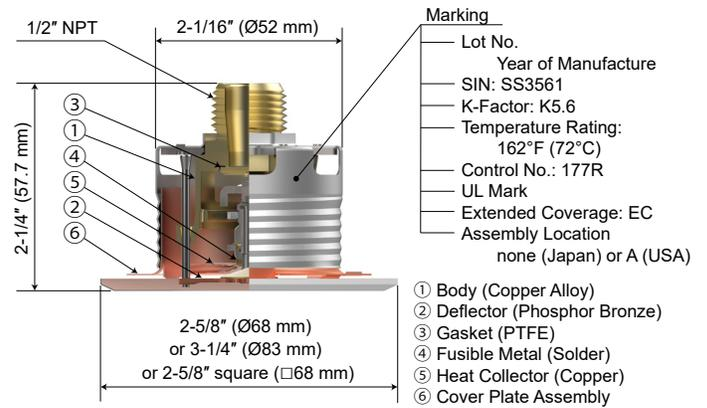

Figure 1: Model RC-QR-EC, K = 5.6
- **Physical Characteristics:** Ref. Figures 1 and 1.1